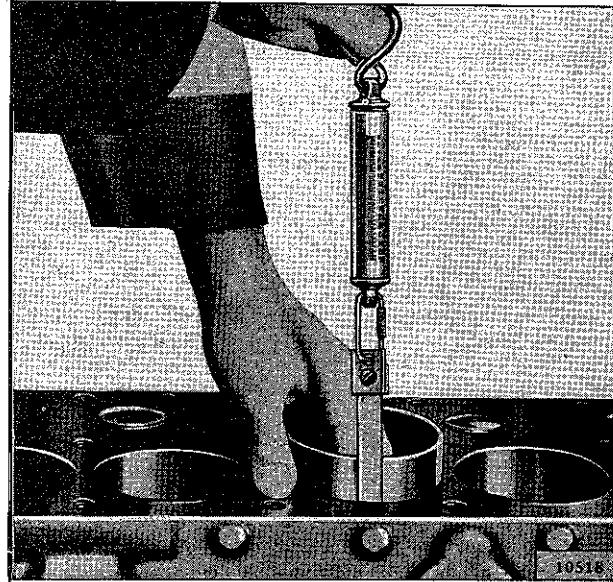

FIG. 99—PISTON FITTING
a. After cylinder bores have been carefully checked for out-of-round and taper (Par. E-35), check fit of each piston to cylinder bore with block and pistons clean and dry and at approximately 70°F. [21°C.] by using piston fitting gauge and scale as shown in Fig. 99. Use a .003" [0,0762 mm.] thickness gauge 3/4" [19 mm.] wide. The piston is fitted upside down in the block to facilitate the operation. The gauge must extend the full length of the